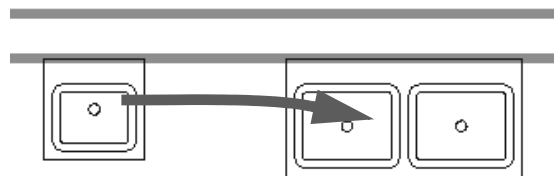

Figure 2–69
5. Where do you change the type for a selected plumbing fixture, as shown in Figure 2–69?